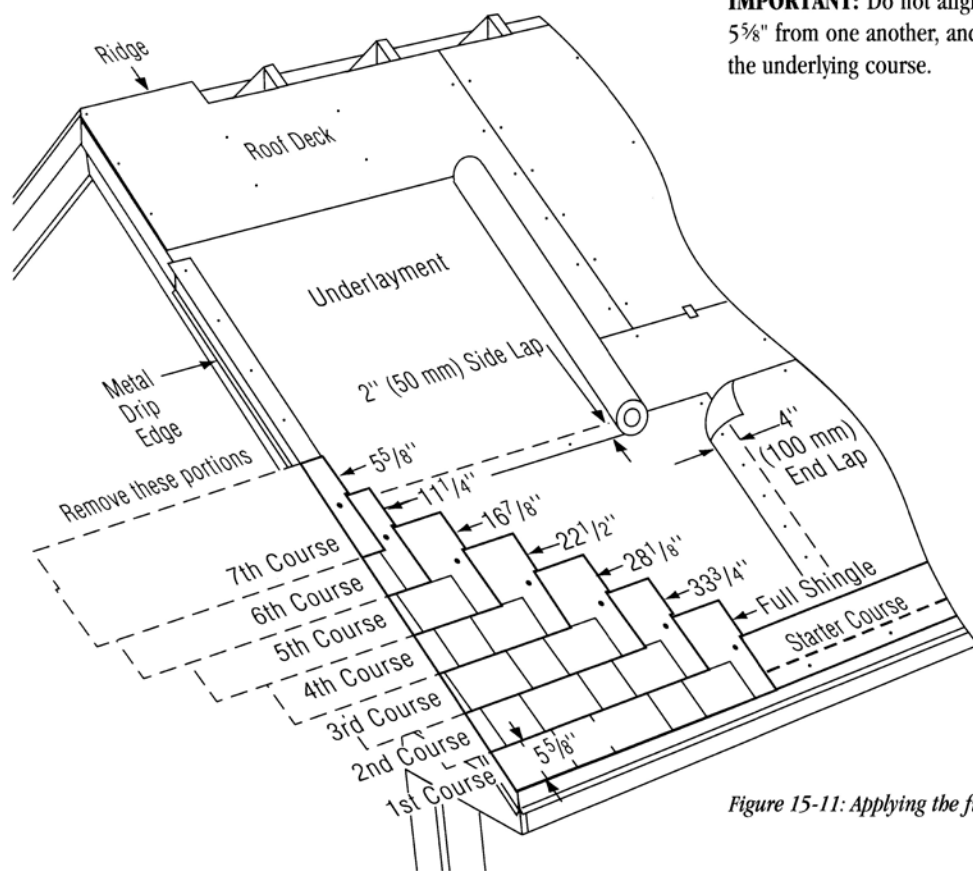

Figure 15-11: Applying the first 7 courses on a standard slope.
1. Cut $5\frac{5}{8}$ " off the left side of a shingle and install this $33\frac{3}{4}$ " piece over and above the first-course shingle, in line with the left edge of the starter course (*Figure 15-11*).
2. Cut $11\frac{1}{4}$ " off the first shingle of the third course, $16\frac{7}{8}$ " off the first shingle of the fourth course, $22\frac{1}{2}$ " off the first shingle on the fifth course, $28\frac{1}{8}$ " off the first shingle of the sixth course, and $33\frac{3}{4}$ " off the first shingle of the seventh course. Apply each with its left edge in line with the previous course (*Figure 15-11*).